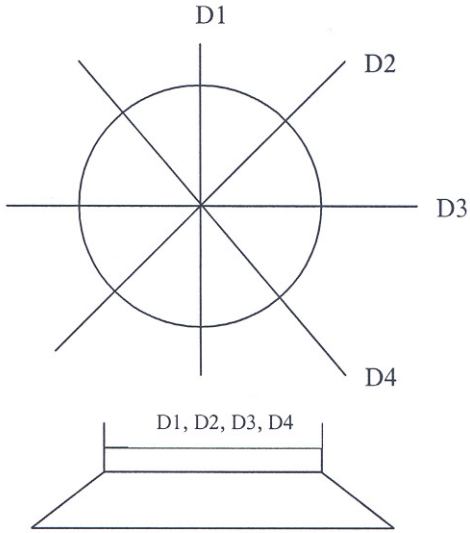

FIGURE 1: Typical Measuring Pattern
7.11 Measure and record the diameter of the circular area four times, at intervals of 45° and to the nearest 0.1 in., as shown in Figure 1.
11.9 Measure and record the diameter of the circular area four times, at intervals of 45° and to the nearest 0.1 in., as shown in Figure 1.